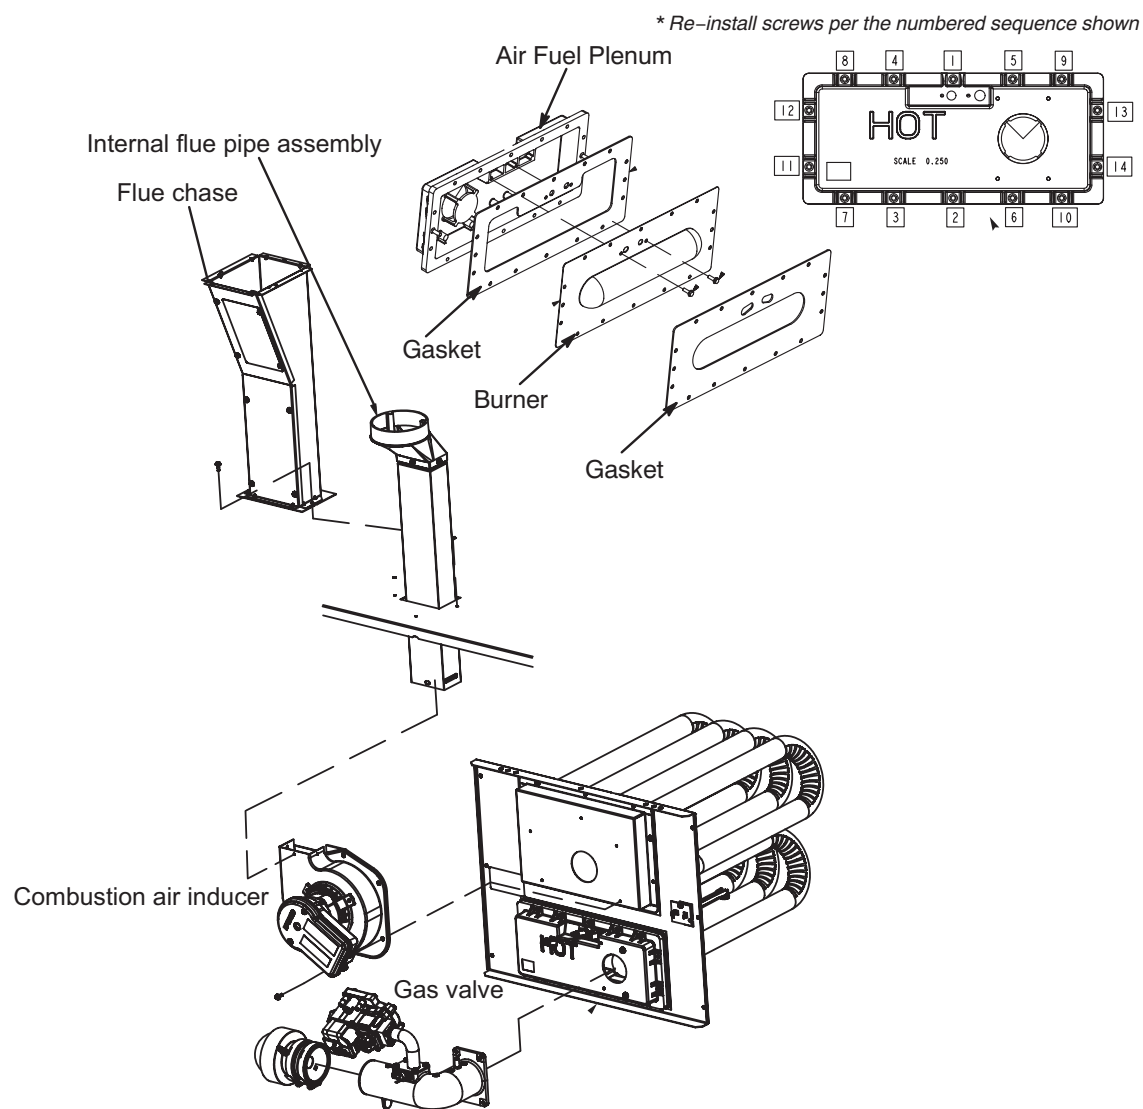

FIGURE 25
A-Heat Exchanger and Burner (FIGURE 25)
- 9 - To clean burner, remove from the air gas plenum and run a vacuum cleaner over the face of burner. Visually inspect inside the burner for any blockage caused by foreign matter. Remove any blockage. FIGURE 25 shows burner detail. **Replace gasket between burner plate and air fuel plenum then re-install burner plate.**